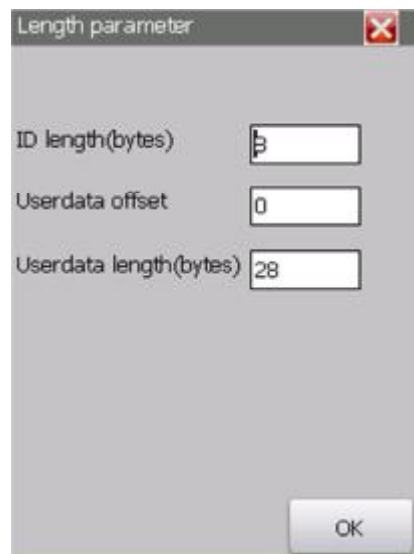

Figure 2-6 Length parameter
- EPC_TID_UserData2: the data memory sections of 6C tag including EPC, TID and UserData. By selecting this option, another interface for setting length parameters will come up. You can set ID length, UserData offset and UserData length (the length of EPC could not be set, the length is 30 bytes). The interface is shown as figure 2-6.